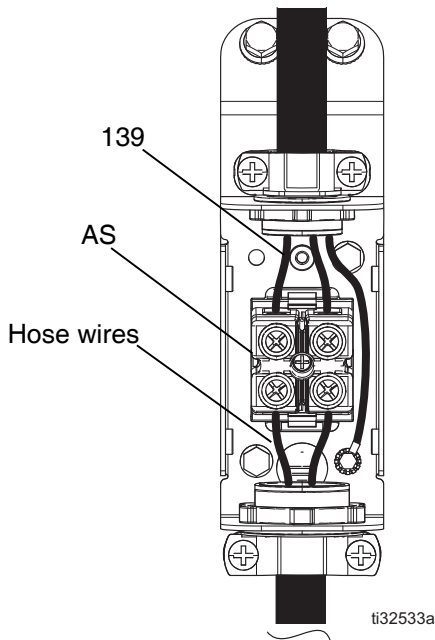

FIG. 70
2. Open the electrical enclosure door (173) by loosening the bolts (68) and lifting the door upwards.
3. Turn off circuit breaker CB5 and disconnect the hose wires in the hose electrical junction box. See FIG. 70, page 70.
- b. If there is continuity, reconnect the hose wires in the electrical junction box. See FIG. 70, page 70. Turn on circuit breaker CB5. Close the electrical enclosure door (173) and tighten the bolts (68).